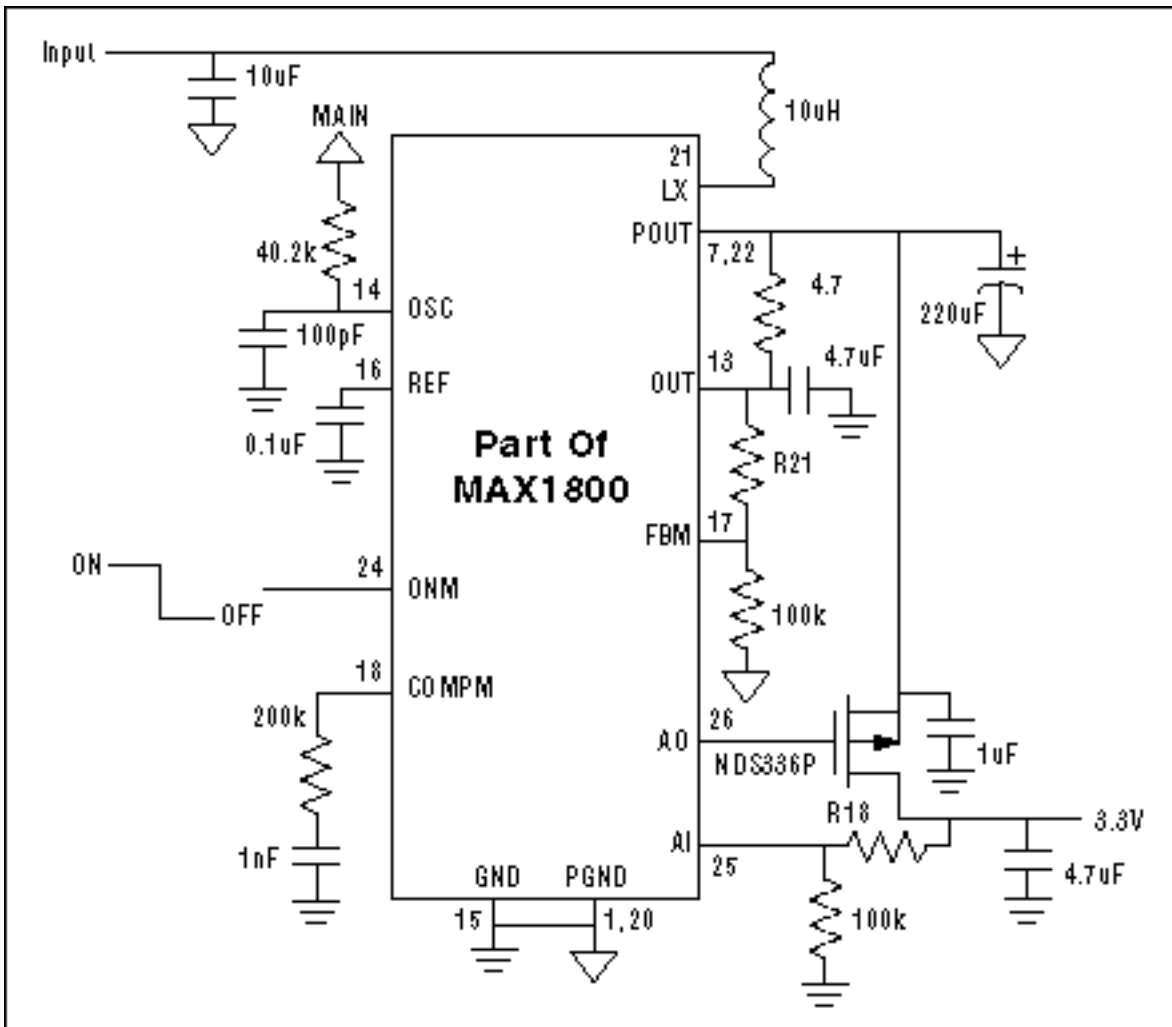

Figure 1. MAX1800 step-up/step-down circuit schematic.
**Figure 1** shows a portion of the MAX1800 five-channel step-up converter. The MAX1800 includes one synchronous rectified step-up converter, three step-up converter controllers, and a linear regulator controller. In this example, only the synchronous rectified step-up converter and linear regulator are discussed; however, it also applies to similar parts such as the MAX1703, the MAX1705, and the MAX1706.